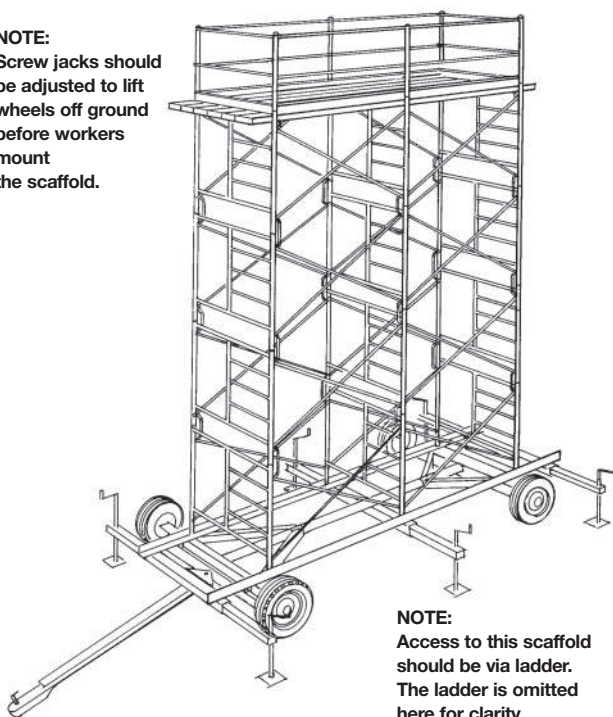

Figure 4.4
- **Farm Wagon Type.** Scaffolds erected on farm wagons or other devices with pneumatic tires are frequently used for installing sheet metal siding and similar materials on industrial buildings. For safe, effective use, the area around the building should be well compacted, relatively smooth and level. This type of scaffold must also have outrigger beams with levelling devices (Figure 4.4). It is subject to the 3-to-1 height-to-width ratio and is impractical for heights greater than 7.5 metres (25 feet). The scaffold should always be resting on the outriggers while workers are aboard. It should never be used as a work platform while it is "on rubber."